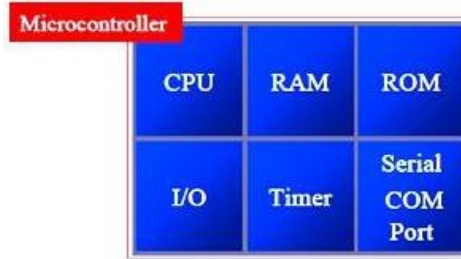

Fig.2. Block Diagram of a Microcontroller
- ✓ The block diagram of Microcontroller is shown in Fig.2.